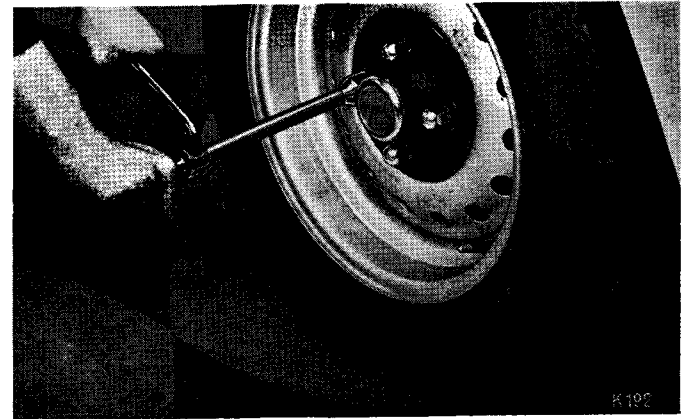

Fig. 4
5. With the tool provided slightly slacken the wheel nuts (Fig. 4.)